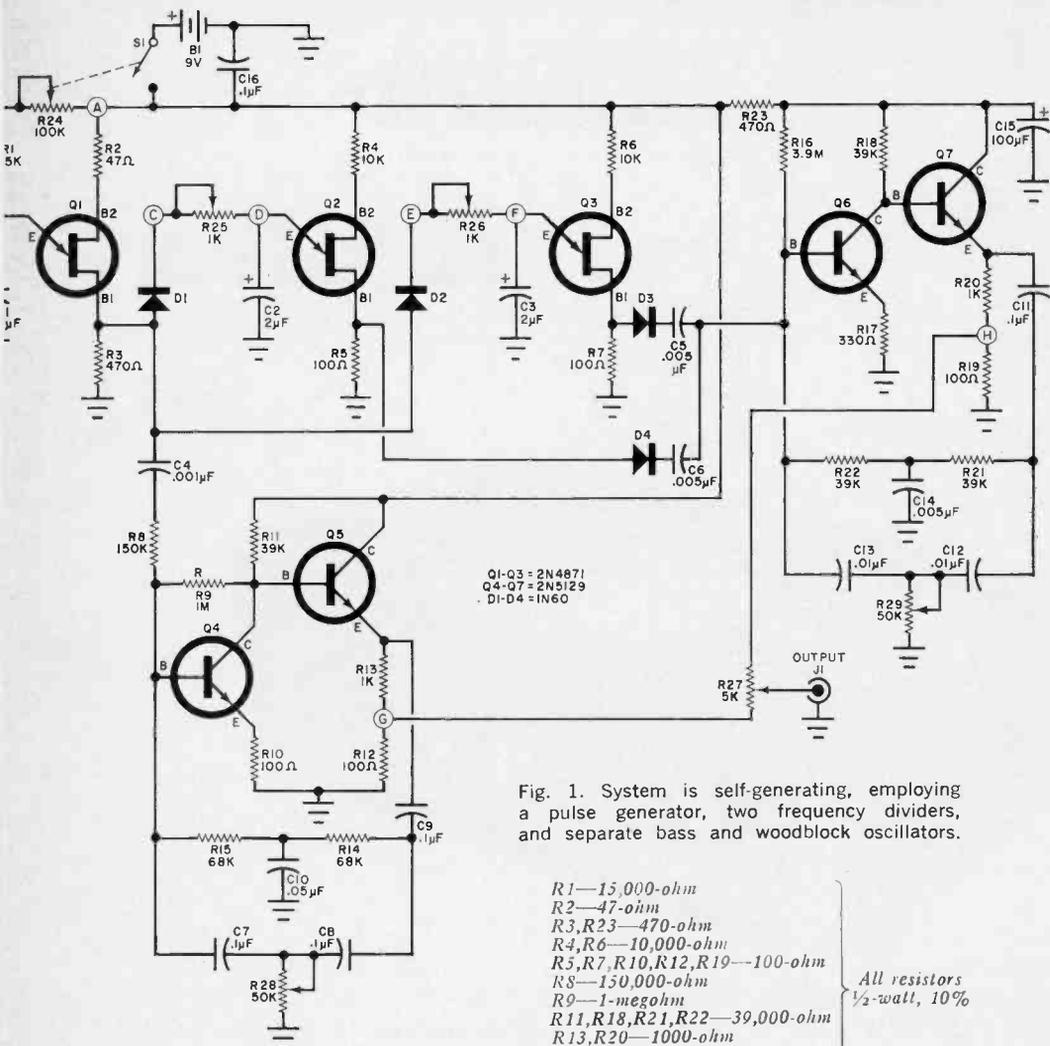
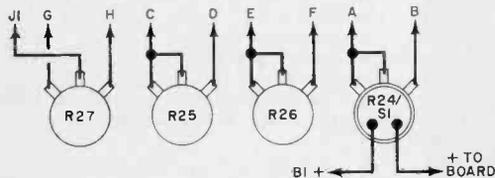

Fig. 1. System is self-generating, employing a pulse generator, two frequency dividers, and separate bass and woodblock oscillators.
Fig. 4. Diagram shows the connections between pots and S1 lugs to lettered holes on circuit board.
Fig. 1. The circuit is not a speech clipper but a legitimate speech compressor. When connected to a radio telephone transmitter or a tape recorder, the circuit will maintain a high modulation level with the speech clarity of the original input. As a bonus, the circuit will also operate a relay that can be used to switch the transceiver on or start a tape machine when speech does.
**How It Works.** The r.f. signal is generated in the tuned circuit consisting of capacitor *C2* and coil *L1* (see Fig. 1).
Fig. 1. Operating frequency is function of L1 and C1. Time constant of R1 and C2 allows Q1 to function as relaxation oscillator. R.f. output is taken off from BP1 and BP2.
Referring back to Fig. 1, wire together the components, being particularly careful with the orientation of *Q1*'s leads and the polarity of *B1*. (Note: a tapped coil is best for *L1*, but if only an untapped coil is available, you can close-wind 8-12 turns of #28 enameled wire over the center of the untapped coil windings. Use as few turns as possible to prevent lowering the Q of the coil and producing too broad a signal, but as many turns as needed to provide an adequate signal level in a good-quality receiver. Now, connect one end of the new winding to the *B1* terminal of *Q1* and the other end to case ground.)
**Construction.** Layout of the TTB circuit (see Fig. 1) is not critical; but, while any method of assembly will give acceptable results, a printed circuit board will go a long way toward guaranteeing a successful project. The printed circuit board can be obtained commercially (see Parts List), or you can etch and drill
Connect and solder the free ends of the circuit board wires to the controls and S1 as shown in Fig. 4, removing and discarding any excess wire as you go. Then finish wiring together the circuit, referring back to Fig. 1 as needed. Finally, slip the battery into its holder, use a dry-transfer lettering kit to letter the functions of the controls on the front panel, and assemble the case.
The Thumpa-Thumpa Box consists of five basic sections: a pulse generator, two frequency dividers, and two ringing oscillators. As shown in Fig. 1, unijunction transistor *Q1* and its associated components make up a simple relaxation oscillator that serves as the "clock" generator for the system.
Fig. 1. Small cabinet size allows walls to be butt-jointed; sides are then finished with adhesive-backed vinyl covering. Grille frame fits directly into well in front of speaker.
tem you plan to build to the dimensions given in Fig. 1. Then, after making the speaker cutout, apply two coats of flat black paint to the sides of the cutout and front surface of the speaker mounting board.